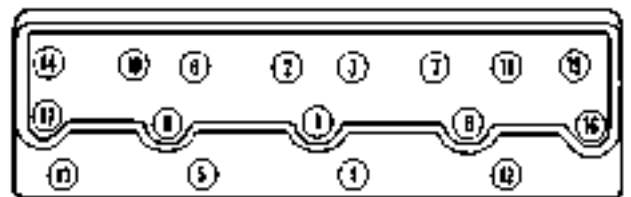

Figure 2-177: Cylinder Head Bolt Tightening Sequence
- b. Tighten bolts in sequence (Figure 2-177), to 20 lb-ft (25 N•m) torque.